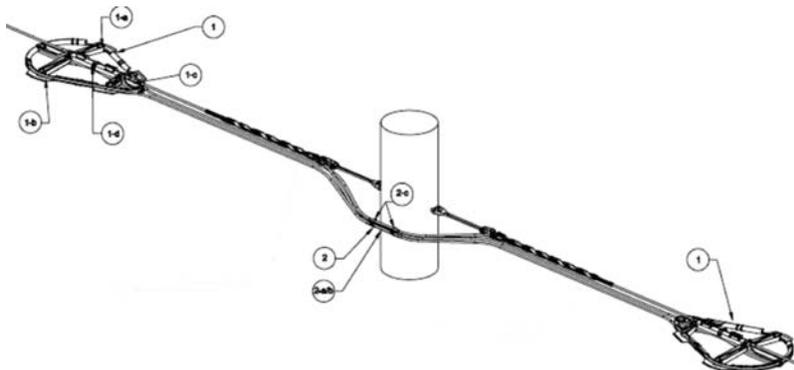

Figure 9 – FIBERLIGN CLAS Cable Storage System
9.1 The CLAS (Center-Lock Aerial Slack) Cable Storage System (Figure 9) is used to organize and store slack cable at splice locations and designated cable storage locations.